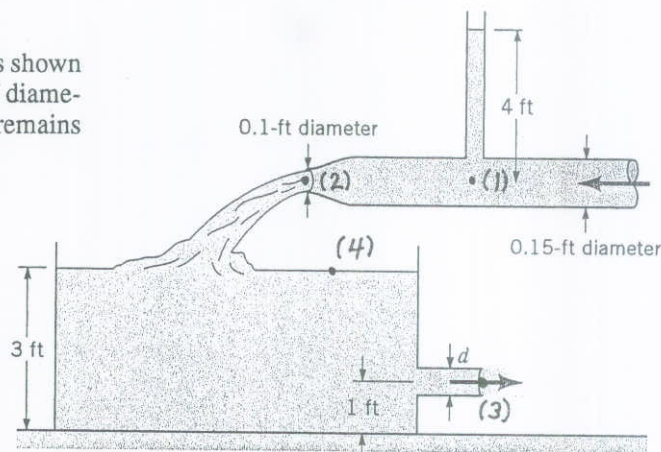

FIGURE P3.99
3.99 Water flows steadily from a nozzle into a large tank as shown in Fig. P3.99. The water then flows from the tank as a jet of diameter  $d$ . Determine the value of  $d$  if the water level in the tank remains constant. Viscous effects are negligible.